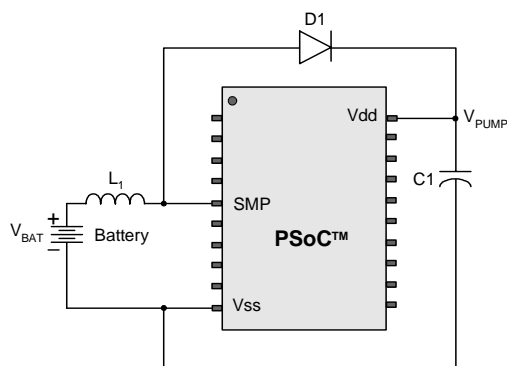

Figure 3-2. Basic Switch Mode Pump Circuit
a. $L_1 = 2\ \mu\text{H}$ inductor, $C_1 = 10\ \mu\text{F}$ capacitor, $D_1 =$ Schottky diode. See Figure 3-2.